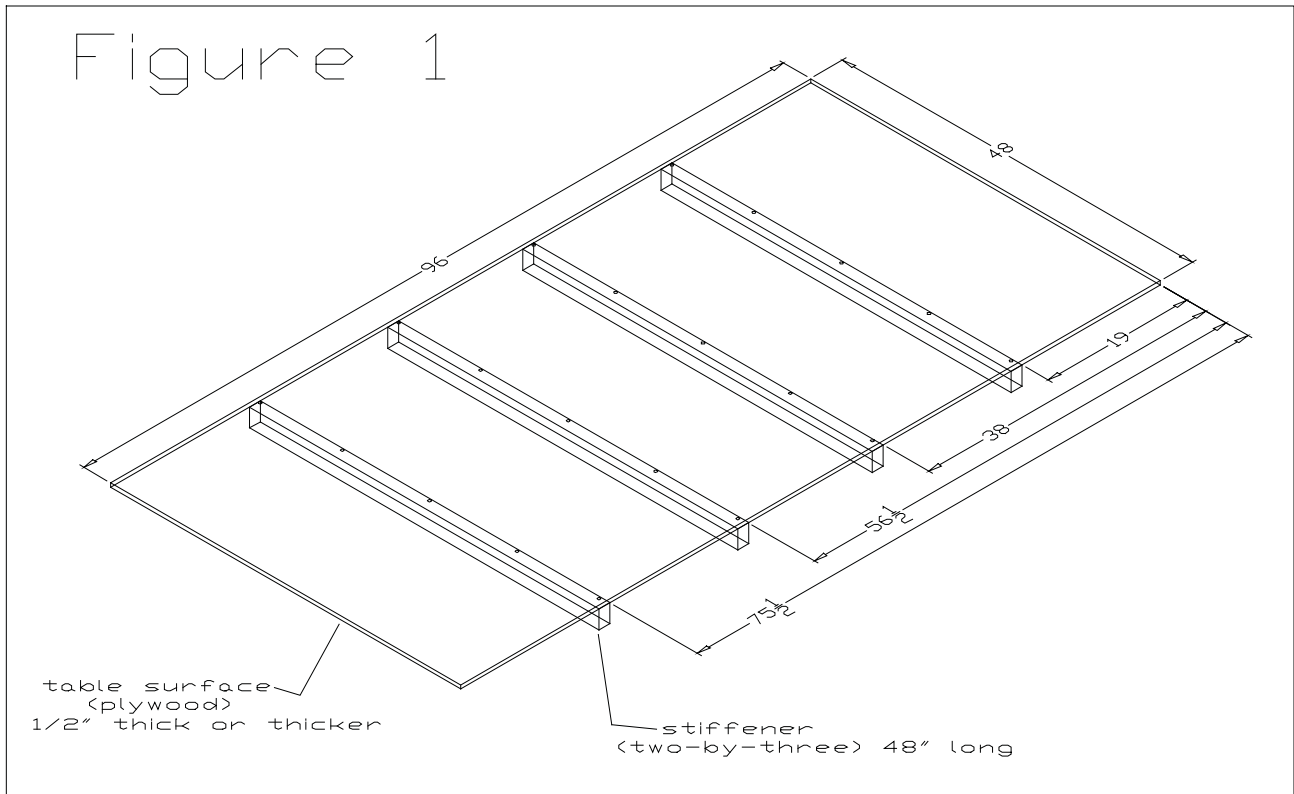

Figure 2
If you already have an FLL table, or if you want to place your Playing Field right on a smooth floor, all you need is a new framework of Field Borders, as shown in Figure 2. Make it from two-by-fours, and paint it black.
Step 2) On the top face of the plywood, locate and clamp the framework of Field Borders around the perimeter as shown in Figure 2. Double check that the 93" and 45" wall-to-wall inside distances are within $\pm 1/8$ " and trim or gap as needed until the tolerance is achieved. Then screw on the borders.